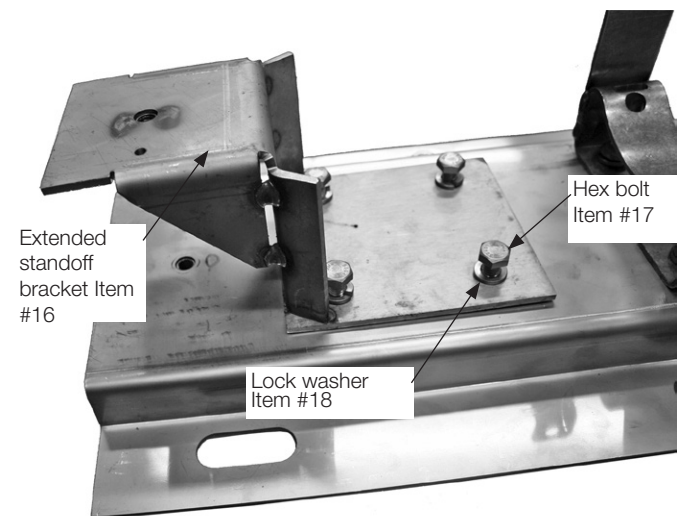

Figure 24. Boss nuts for mounting stand-off bracket
1. Attach the extended stand-off bracket (Item 16) to the channel base at the four squared boss nuts using 5/16-18 X 3/4" hex bolt and 5/16" lock washer (Items 17 and 18). Refer to Figures 24 and 25.